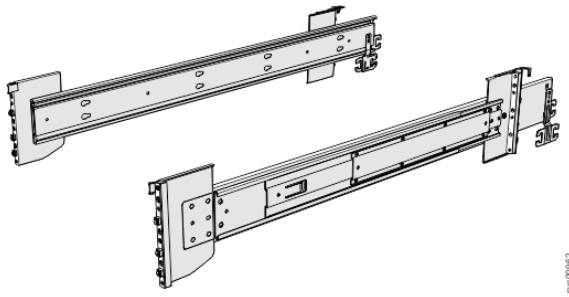

Figure 54. Support rails
1. Locate the hardware that is used to install the rails, including the M4xL6 and M5xL13 screws. Set the hardware, which is shown in Figure 54 on page 55, aside for use later in the installation process.